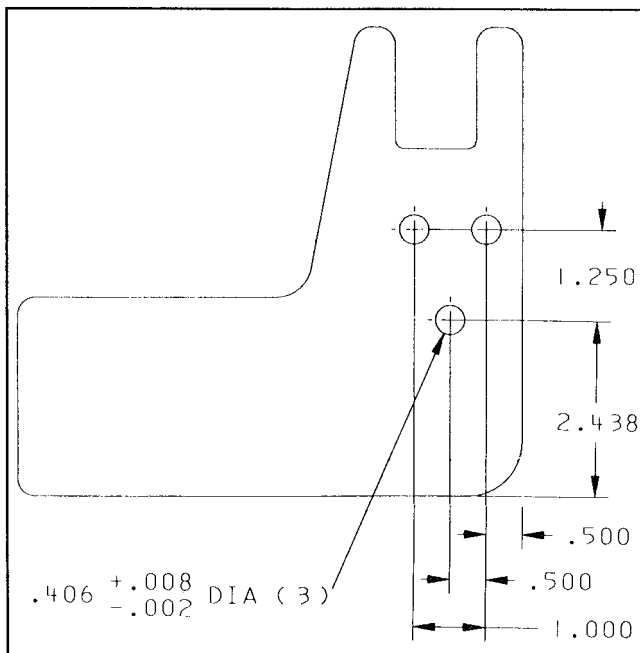

Figure 6
Note: If rear cradle mounting holes are not in lift arms, use the dimensions shown in figure 6, to locate, mark and drill the (3) .406" dia. holes required in each lift arm.
3. Slide carrier frame onto lift arms aligning mounting holes. Secure each side of carrier frame to lift arms with (3) 1/2-13 x 1-1/2" lg. capscrews. Torque capscrews to 70-80 ft-lb. (Fig. 6).